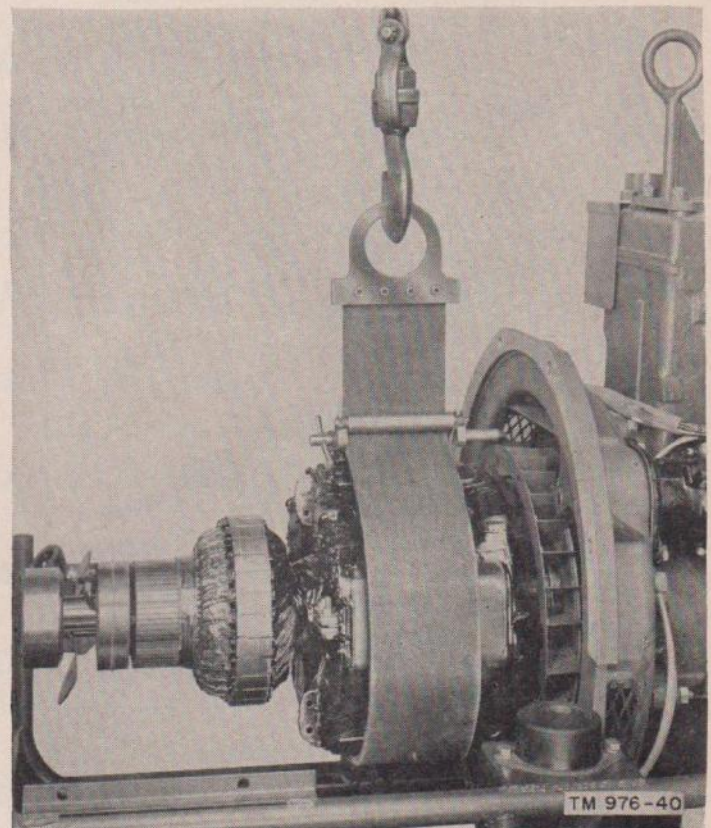

Figure 40. Removing rotor.
- (1) Remove the air scroll (39) by removing the lock washers (40) and screws (41).
- (2) Place a canvas belt around the rotor assembly (42) and attach the belt to a chain hoist. Take up the slack until the belt is taut. Be careful not to put any strain on the rotor. Remove the lockwire, screws (43), and lock washers (44). Then swing the rotor assembly slowly away from the unit (fig. 40).